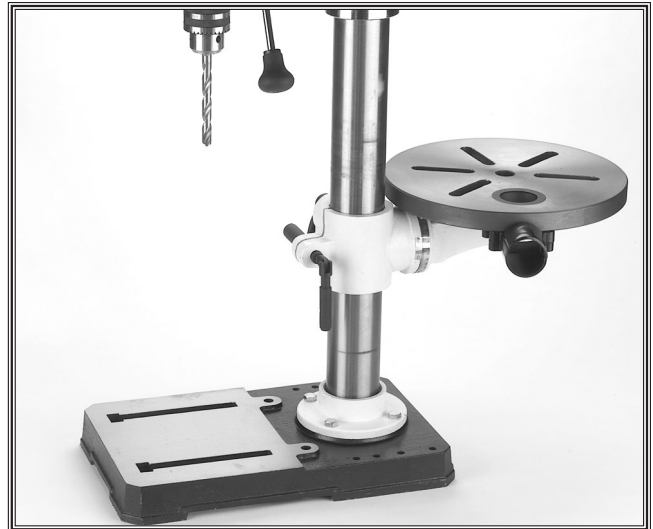

Figure 31. Table adjusted behind column.
- If the table is not needed, pivot the table to the back side of the column (**Figure 31**) so you can support the workpiece on the base (**drilling operations only**).